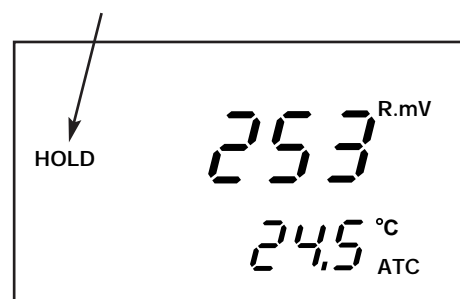

Figure 29
1. To hold a measurement, Press the **HOLD** key while in measurement mode. "**HOLD**" will appear on the display. —See Figures 29 and 30.